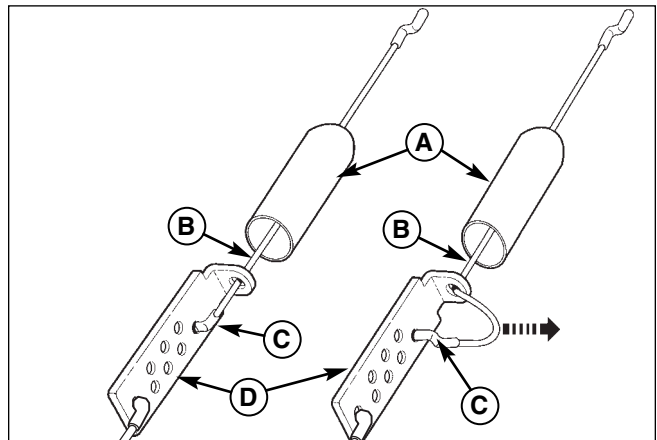

Figure 21. Traction Drive Cable Adjustment
2. To adjust tension on the cable slide the cable boot (A, Figure 21) off the cable adjustment bracket (D).
3. Move the "Z" hook (C) from the cable adjustment bracket (D) to a different adjustment hole. The cable should have slack. The cable should have no tension or load.